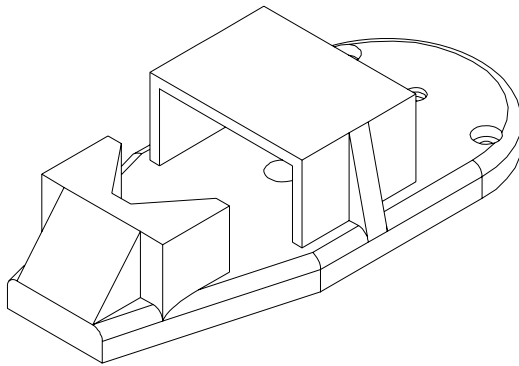
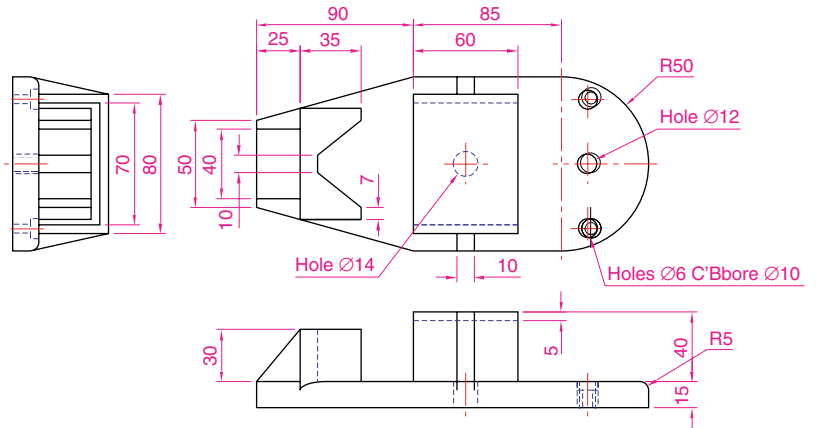

Fig. 7.30 Exercises 8 and 9 – an isometric drawing of the component for the two exercises
Fig. 7.31 Exercises 8 and 9
8. Construct a third angle projection of the component shown in the isometric drawing in Fig. 7.30 and the three-view first angle projection in Fig. 7.31.
9. Construct the isometric drawing shown in Fig. 7.30 working to the dimensions given in Fig. 7.31.